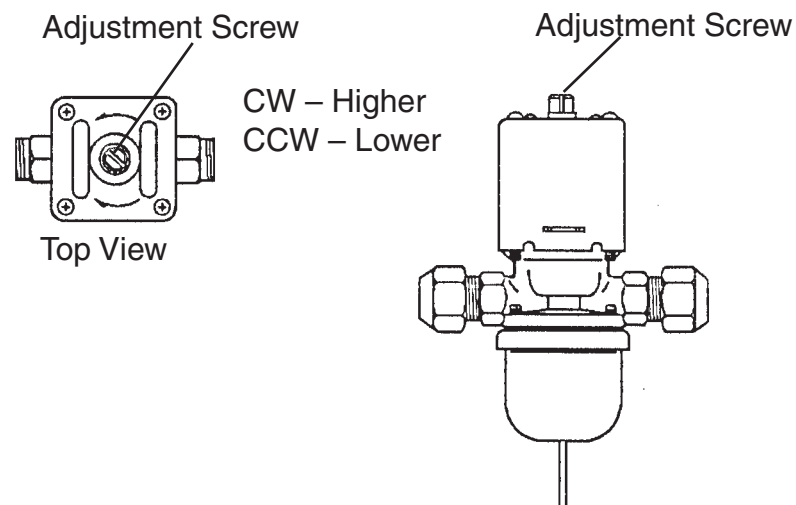

Fig. 3
- 2) Rotate the adjustment screw by using a flat blade screwdriver, so that the pressure gauge shows 270 PSIG or the thermometer reads 104 to 115°F, 5 minutes after a freeze cycle or icemaking process starts. When the pressure exceeds 270 PSIG, or the condenser drain temperature exceeds 115°F, rotate the adjustment screw counterclockwise. See Fig. 3.